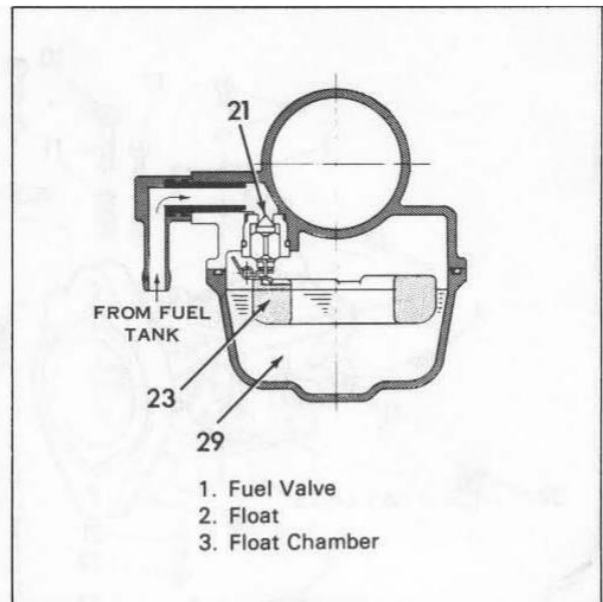

Figure 3-80. Carburetor Float System
The float system is shown in Figure 3-80. Fuel from gas tank passes through fuel valve (21) onto float chamber (29). The fuel entering causes float to rise until it shuts off fuel valve stopping flow at a level predetermined by float level setting